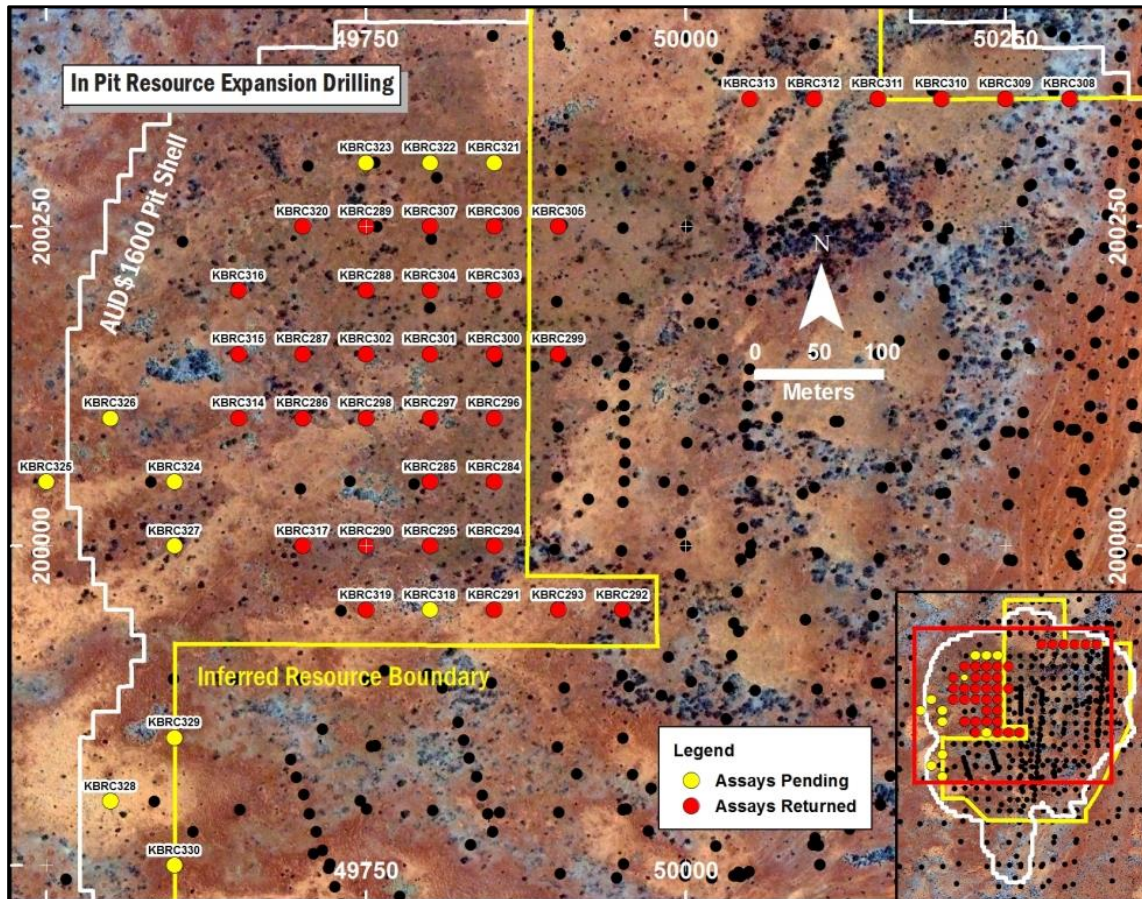

Figure 2: Plan Showing Current Drilling Status
- This drilling has been focused on the "Main Lode" in the northern area of the optimised open pit (Figure 2). These initial results indicate strong continuity of mineralisation outside